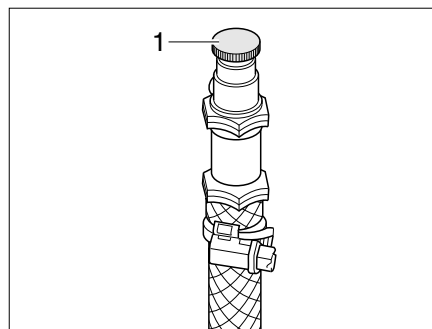

Fig. 375 Bleeding valve of hot-water heater
- Open bleeding valve (Fig. 375,1) and leave open until no more air escapes.